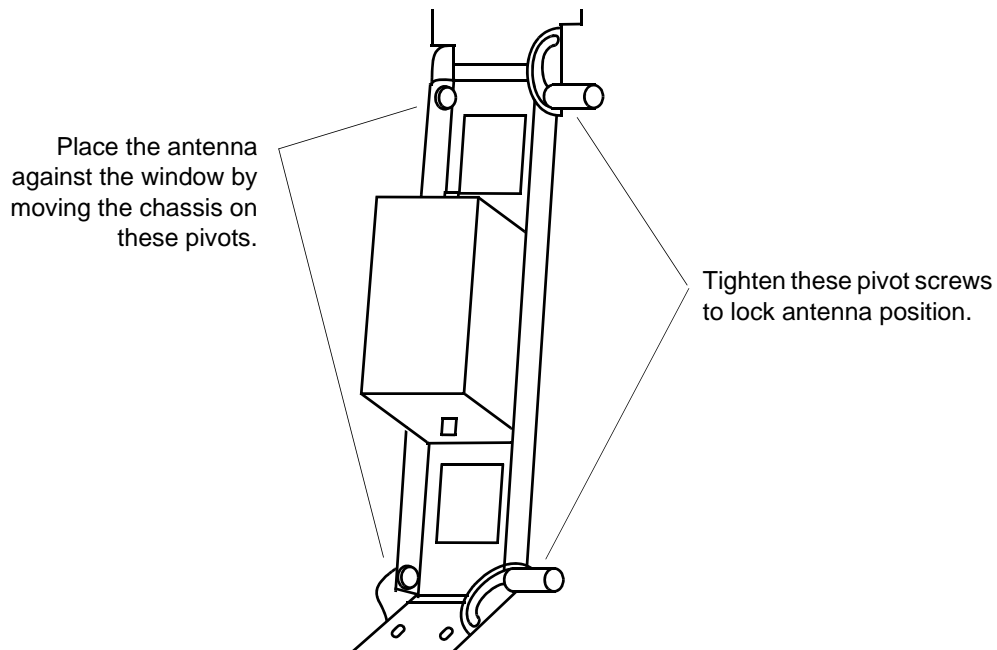

Figure 3-4. Mechanical Window Antenna Pivot Screws
3.	Tighten the pivot screws to secure the antenna (Figure 3-4).